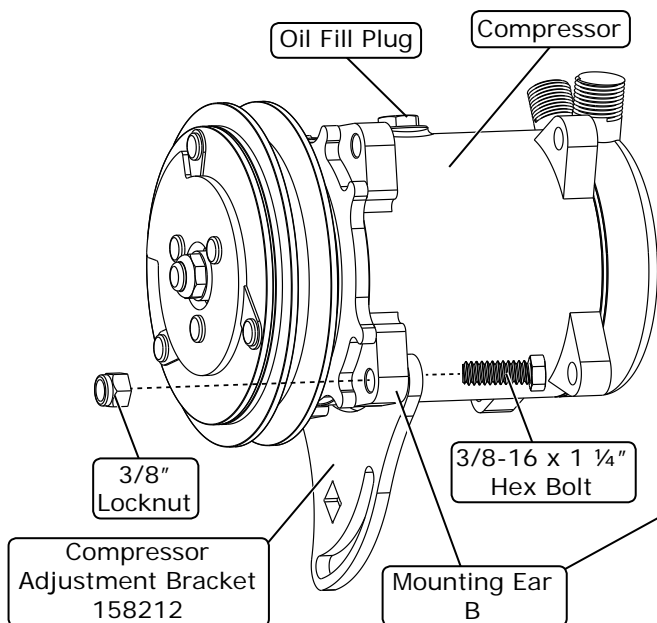

Figure 3
1. Install the compressor adjustment bracket onto the compressor using a 3/8-16 x 1 1/4" hex bolt and a 3/8" locknut as shown in Figure 3, below. **NOTE: Ensure the bracket is installed on the compressor at Mounting Ear B, opposite the oil fill plug (See Figure 3 and Photo 5, below). Do not tighten the bolt at this time.**